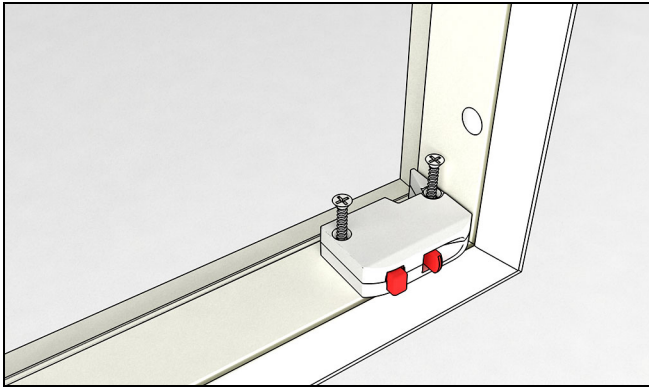

Figure 3 WOCD housing positioning.
7. Position the WOCD housing so the lock lever is closest to the locking-side jamb. See Figure 3.